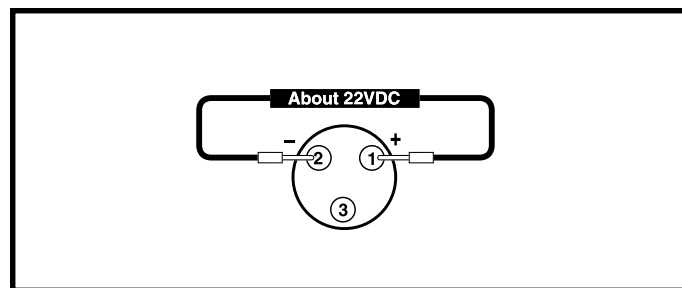
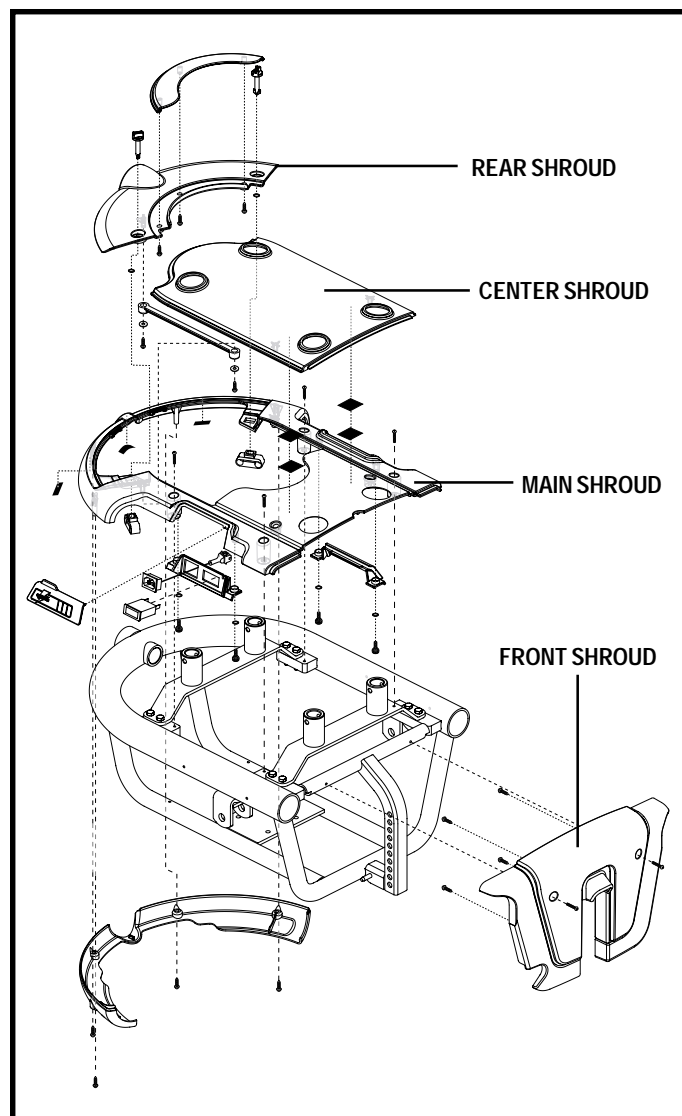

Figure 11. Connector 1a
Figure 12. Jet 3/10 Ultra Shroud Assembly
1. Measure voltage across pin 1 (B+) and pin 2 (B-) on the off-board charging socket (connector 1a). **See figure 11.**
- *If your multimeter indicates more than 22VDC*, then replace the VSI controller (1) and retest the system.
4. Remove the center and rear shrouds. **See figure 12.**
5. Remove the main shroud. **See figure 12.**